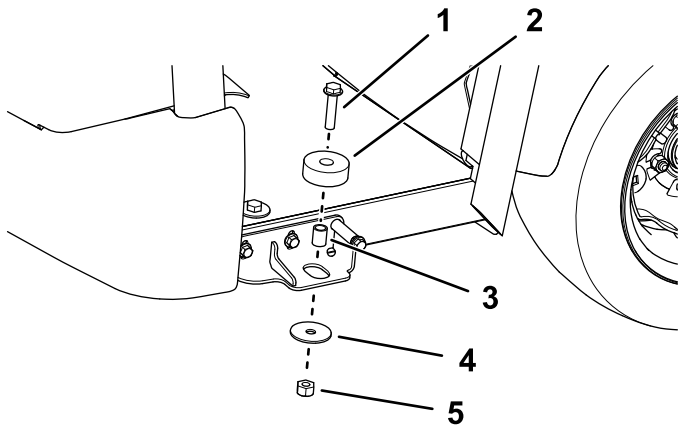

Figure 28
6. Install the 2 rubber isolators using a flange-head bolt (1/2 x 2-1/4 inches), spacer, washer, and locknut on each side (Figure 28).